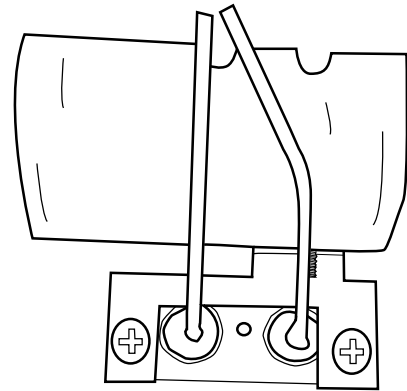
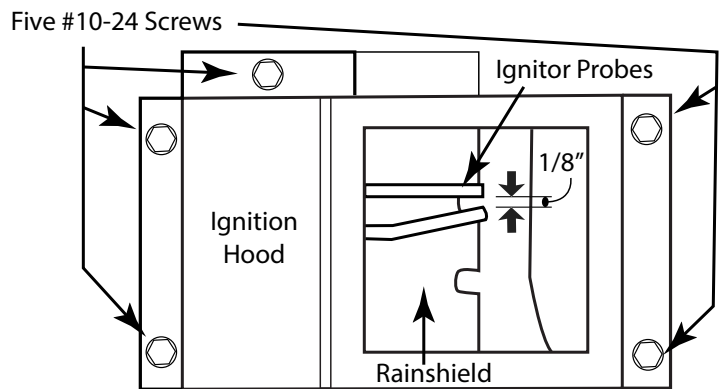

Fig. 5
Fig. 8
NOTE: Ensure the probes are aligned ovetop of the rainshield notched/cutout area and are spaced approximately 1/8-inch apart from the end/tips, above the burner leg (See Fig. 5 &7 Fig 8).
Step #7 Install the ignition hood over top of the ignition probe assembly into the existing prepunched holes of the burner pan by using the five #10 - 24 x 1/2" provided screws (See Fig. 8).
Step #11: Test the ignitor by pushing and holding the red button to ensure the 2-probe ignitor is sparking inside the ignition box in the burner pan. The spark should be located directly overtop of the burner port hole for proper ignition of the gas as previously discussed. Spacing between the probes should be approximately 1/8" for proper spark. See Fig. 5 if necessary.
3. Gas should ignite within 10 seconds or less. If fire pit does not light within 10 seconds turn **OFF** the gas supply. Check ignitor probe location (Figs. 5 & 8), ensure there is an 1/8" gap between the probes with a good strong spark then repeat steps 2 through 4.